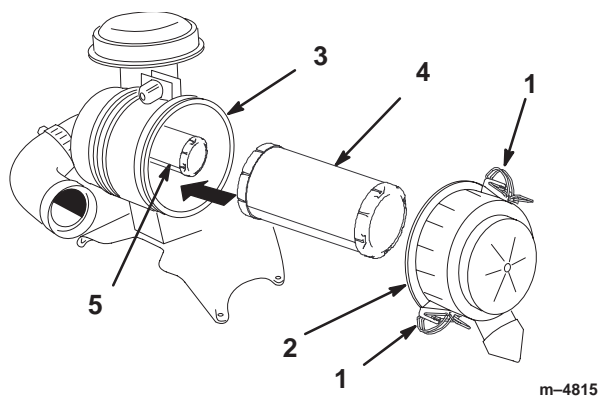

Figure 25
2. Release the latches on the air cleaner and pull the air cleaner cover off of the air cleaner body (Fig. 25).
4. Gently slide the primary filter out of the air cleaner body (Fig. 25). Avoid knocking the filter into the side of the body. Do not remove the safety filter, unless you intend to replace it as well.
2. If the safety filter is being replaced, carefully slide it into the filter body (Fig. 25).
3. Carefully slide the primary filter over the safety filter (Fig. 25). Ensure that it is fully seated by pushing on the outer rim of the filter while installing it.
4. Install the air cleaner cover with the side indicated as UP facing up and secure the latches (Fig. 25).